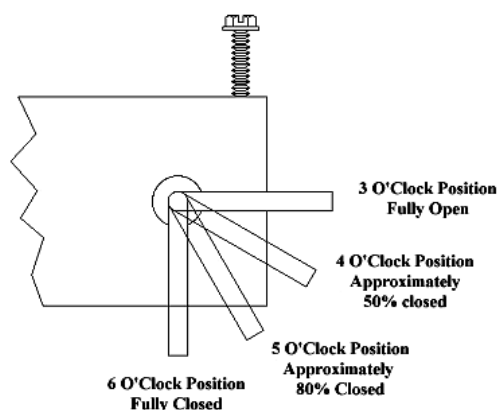

Figure 5
The purpose of this damper is to adjust combustion airflow to match the characteristic of each specific air inlet and chimney configuration. There is a setscrew in the damper (*shown in Figure 5*) and the damper has been preset at the factory. This setting will most likely work for 90% of the most common installations. Long horizontal runs might need the damper opened. Tall vertical runs might need the damper to be closed a little, etc. To adjust the damper, use the setscrew to make the adjustments. To make an adjustment turn the screw $\frac{1}{2}$ turn clockwise to open the damper or $\frac{1}{2}$ turn counter clockwise to close the damper. Remember to use the damper handle to bring the damper up to the screw. The damper will not close by itself. After making an adjustment wait at least 15 minutes to see how the burn pot reacts to the change. **Adjusting the damper during the break in period is very**
- Use the “scraper” provided to move the burning pellets to one side of the grate, leaving the ash in the bottom of the grate. (See Fig 5 & 6)